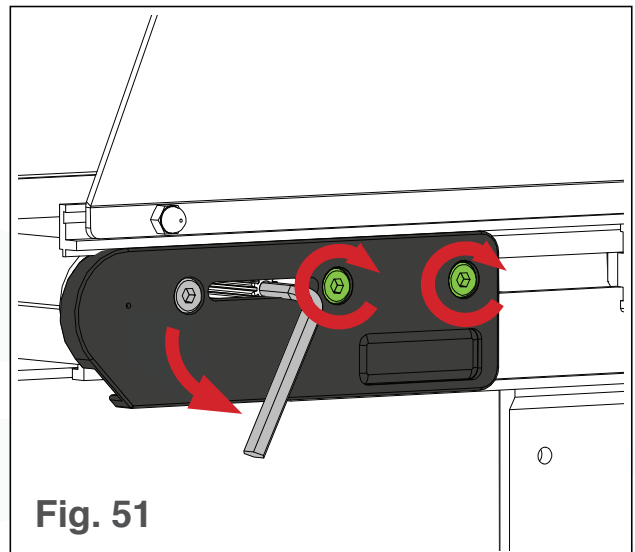

Fig. 51
5. Once the desired tension has been achieved, while still holding the hex key in the pinion gear, retighten the two inner tensioning head plate bolts on both sides of the conveyor (see Fig. 51).